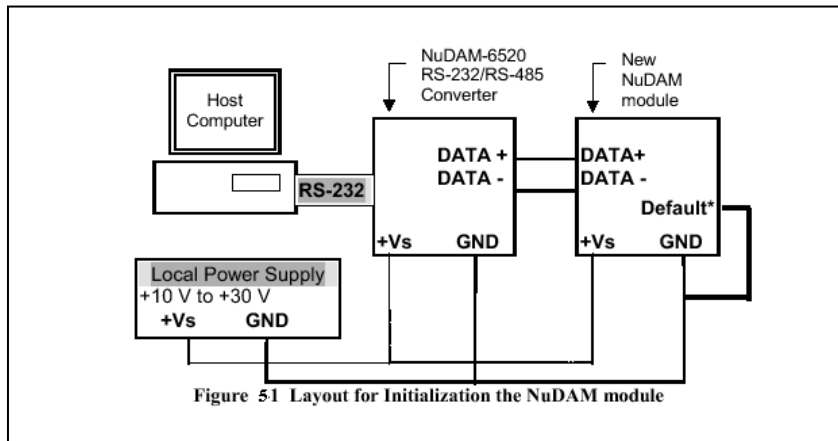

Figure 2-12 Wiring for NuDAM be in default state
2. Connect a brand new NuDAM module with the RS-485. Set the module in *Default State* by shorting the **DEFAULT\*** pin. Refer to Figure 2-12 for detailed wiring.